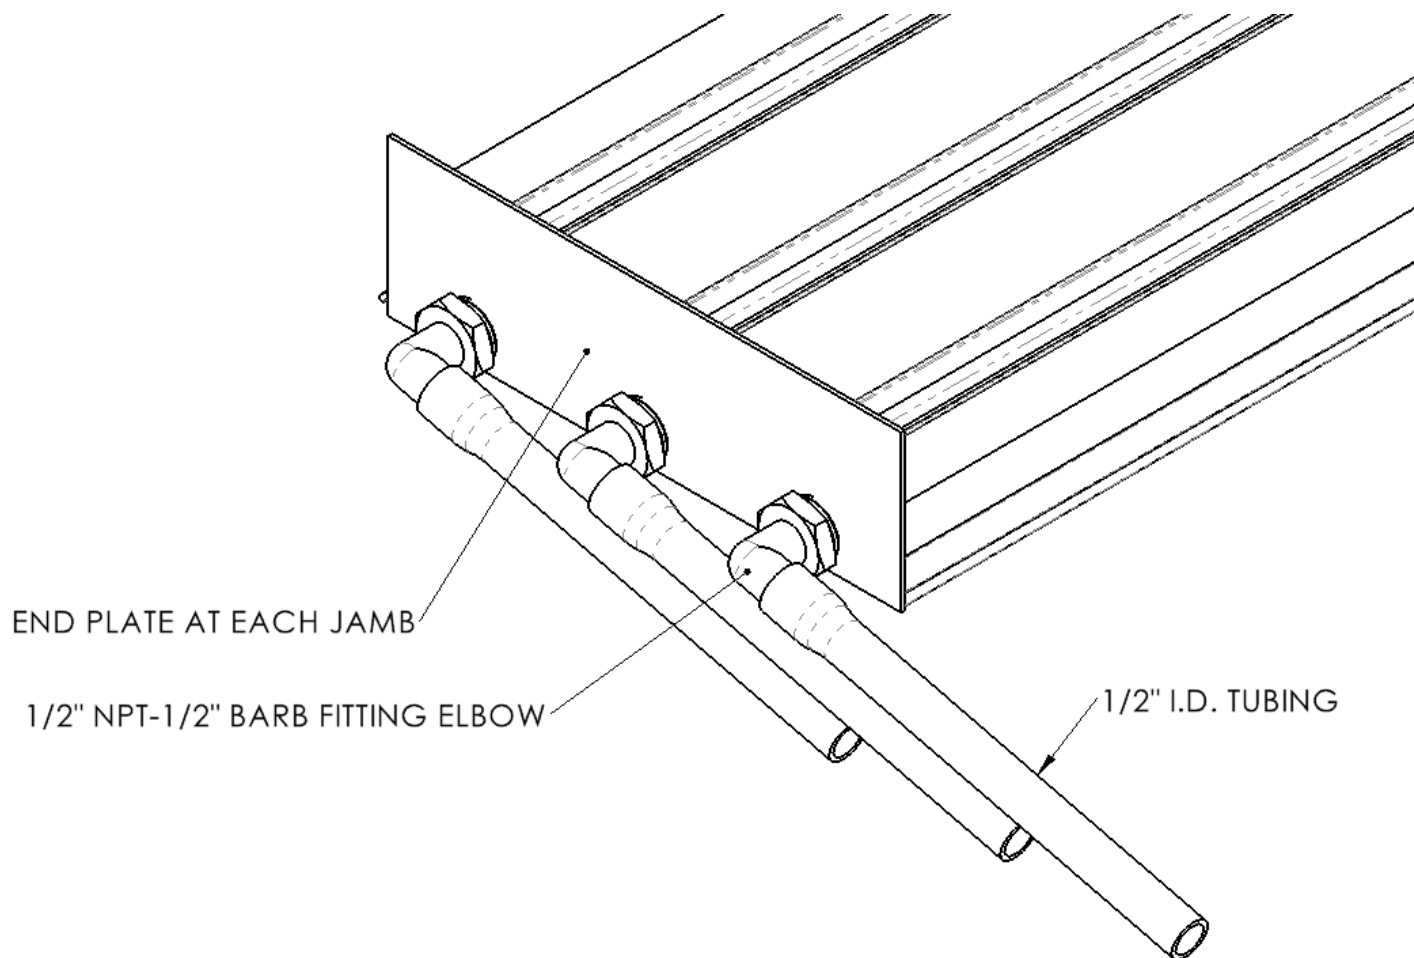

Figure 5
- Side Drain Fitting Sill (See **Figure 5**)
Screw the $\frac{1}{2}$ " NPT pipe to $\frac{1}{2}$ " hose barb fittings using tread sealant or Teflon tape to the ends of each track. Push fully the $\frac{1}{2}$ " minimum inside diameter hoses onto the barbed fittings and route to an appropriate drainage location, ensuring that the hoses have a continuous downward slope of at least $\frac{1}{4}$ " per foot. See **Figure 5**. Skip to step 10.